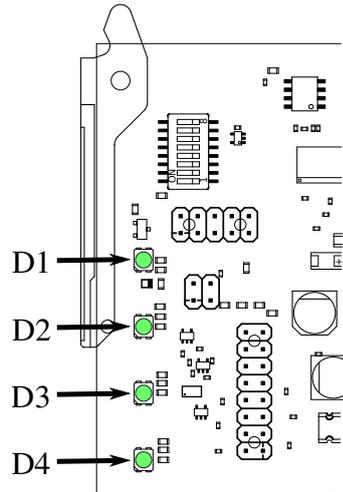

Figure 7.1 Location of the LEDs
3. Wait until lower LED (D4, see Figure 7.1) is yellow and the other leds are off.
There are 4 LEDs on the front side of the card, see Figure 7.1.